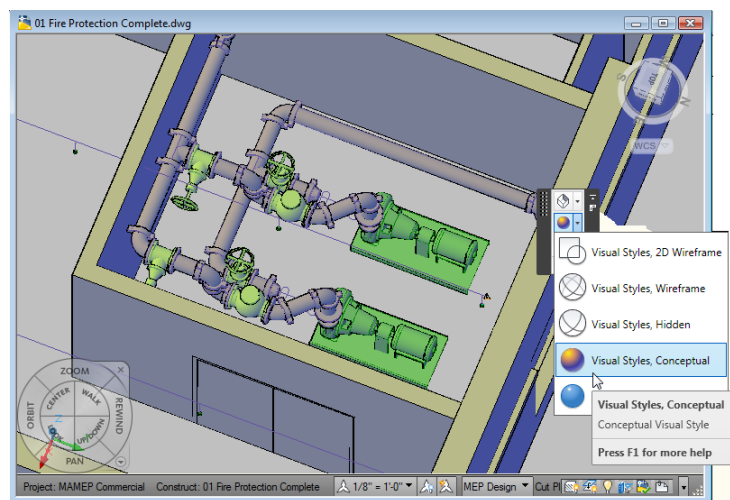

Figure 6.56
16. Click and drag the ViewCube in the upper right corner of the screen to orbit the view to a steeper angle. (You can also hold down the SHIFT key and drag with the mouse wheel) see Figure 6.56.